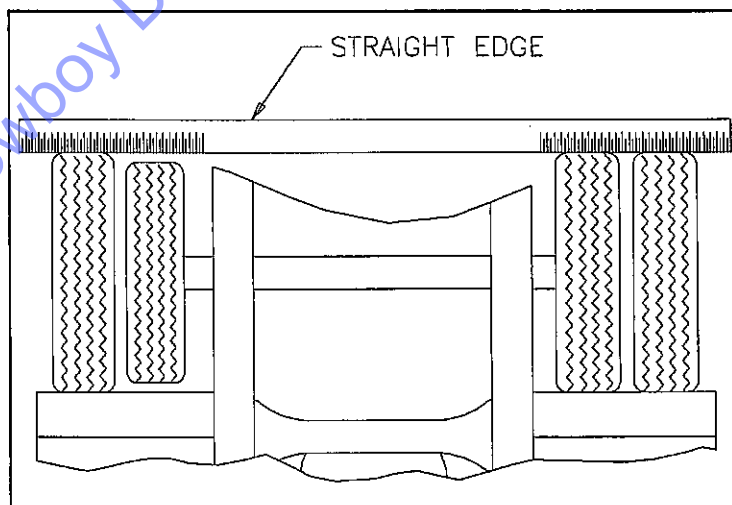

Fig. 4-18 Straight Edge Method
b. Straight Edge or String Method: (This method can not be used if tire and wheel assemblies are not mounted on the axle.) Jack semitrailer up until the wheels are off of the ground. Hold a straight edge against the tires of both ends of an axle. A gap at one tire indicates a smaller tire. A maximum of $1/8$ " gap is allowed (See Figure 4-18).